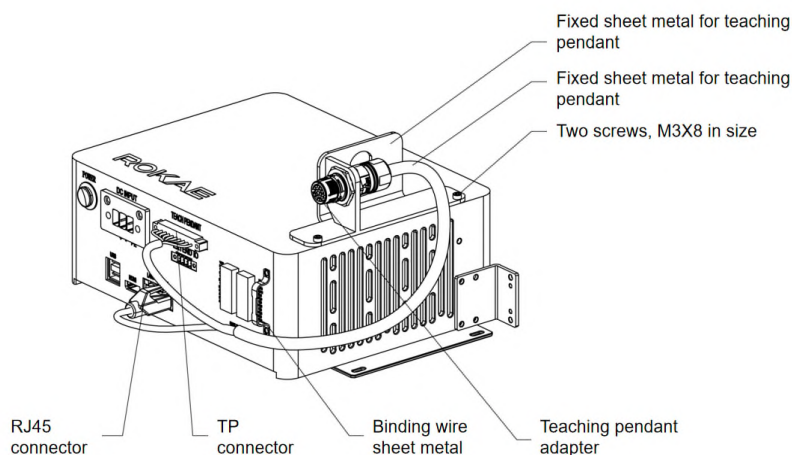
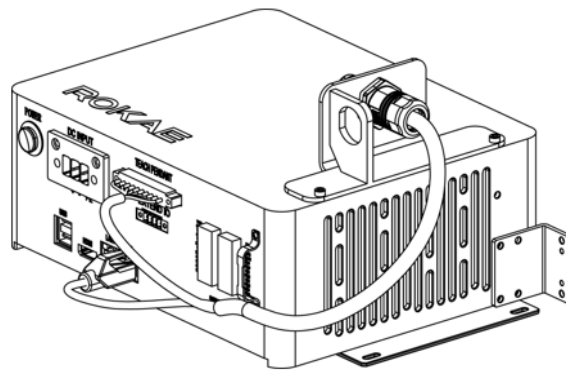

Figure 5-12 Installing the teaching pendant adapter harness
Figure 5-14 Left facing installation diagram
- (3) Thread the connector of the teaching pendant adapter through the sheet metal and tighten the nut of the teaching pendant adapter with an adjustable wrench to secure the teaching pendant connector onto the sheet metal. As shown in Figure 5-12.
(4) The xPad connector and RJ45 connector of the teaching tool adapter cable are respectively connected to the TEACH PENDANT interface (original xPad interface) and LAN2 interface of the control cabinet (pay attention to the interface and do not plug it incorrectly), and the wiring harness of the plug accessory is fixed to the wire binding sheet metal next to the IO interface of the control cabinet with zip ties. The final effect is shown in Figure 5-12.
(5) Connect the cable connector on the teaching pendant to the teaching pendant adapter shown in Figure 5-12 and lock it to use the teaching pendant normally. The schematic diagram of the teaching pendant connection is shown in the following figure.
This solution is only intended for users who have an optional teaching pendant adapter kit. The teaching pendant adapter plug provides two installation methods, namely facing forward and facing left. Figure 5-12 shows the forward installation method, which is also the default installation method for the teaching pendant adapter kit. Refer to Figure 5-14 for the installation method facing left.